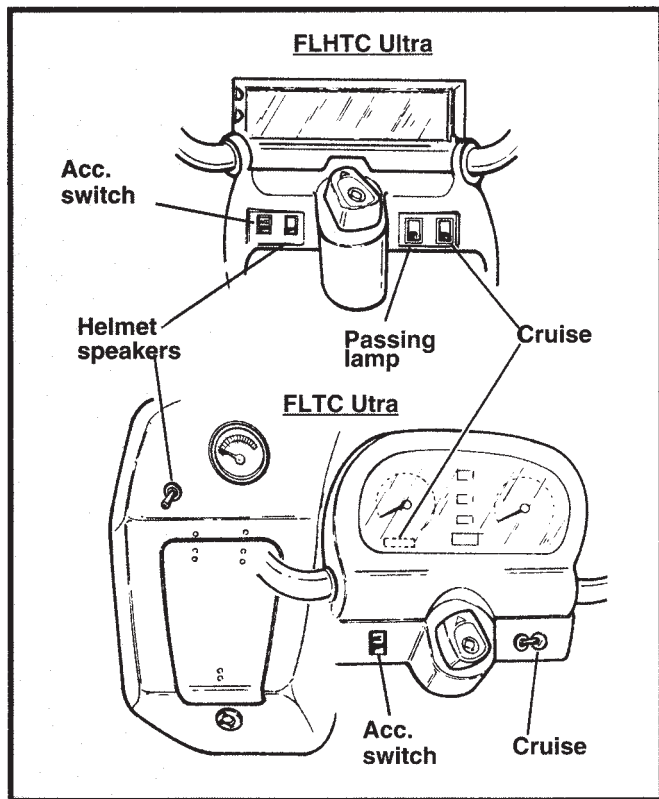

Figure 5. Cruise, Speakers, Acc., Passing Lamp Controls
See Figure 5. Use the passing lamp switch to turn on the passing lamps as required.
See Figure 5. The RED lamp on or near the switch, indicating CRUISE ON, will light.
3. See Figures 5 and 10. The GREEN lamp on the gauge panel, indicating CRUISE SET, will light.
See Figure 5. FLT models, including the FLHR, have an accessory switch for the owner's use. There is an accessory connector, located under the seat, that can be activated with the ACC. switch. The switch is located on the left side of the fairing or triple clamp shroud. See your dealer for possible uses.
See Figures 5 and 10. Ultra models have two additional indicator lights: a red light on or near the cruise control switch, indicating cruise control on or off, and a green light on the gauge panel, indicating cruise control set or not set. See CRUISE CONTROL - ULTRA MODELS.